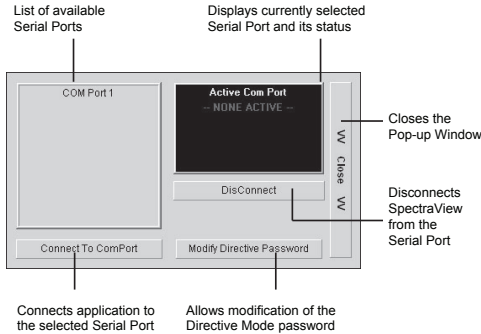

Figure 3-1: The Serial Port Pop-up Window has all the features necessary to connect a serial port logically
3. After connecting to the port, press the **Modify Directive Password** button (see Figure 3-1). Enter the new password and press the **OK** button